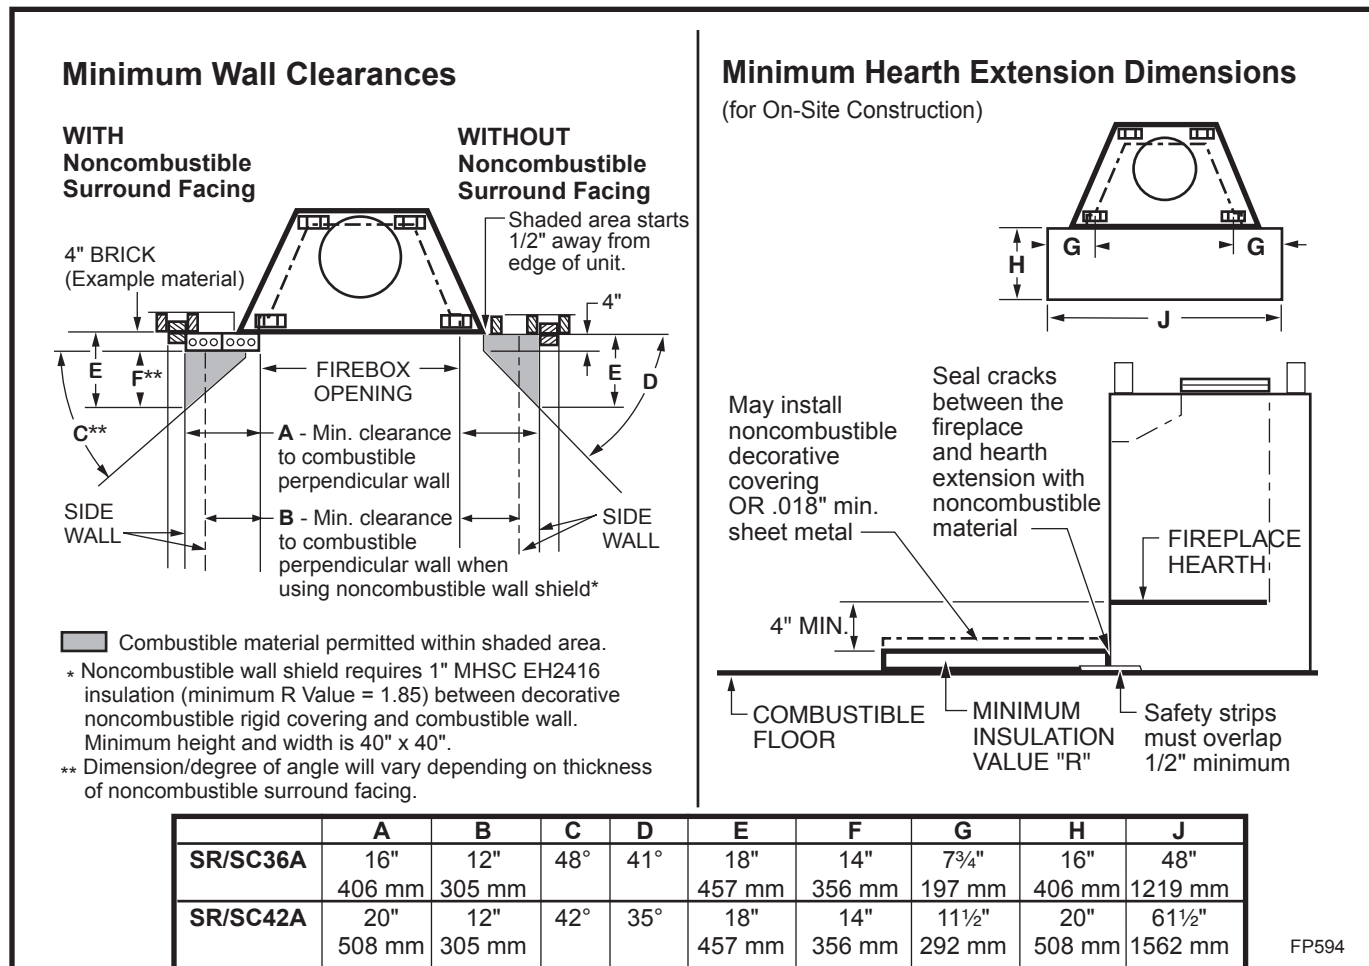

Fig. 23 Combustible side wall protection and hearth extension dimensions.
Often a decorative surround or vertical portion of the mantel is desired. If this is constructed of any combustible material it must be within the safe zone indicated in Figure 23.
Adjacent combustible side walls that are within the minimum dimensions shown in Figure 23 of fireplace opening must be protected with MHSC Wall Shield Model SP40 or a specifically built wall shield described below.
A hearth extension is required to protect a combustible floor in front of the fireplace. Refer to Figure 23 for minimum dimensions and mounting detail.
The hearth extension described in Figure 23 must be a durable noncombustible material with a minimum (total) Rt value of 1.09; refer to Figure 24 for examples. The overall height (above a combustible floor), depth and width must be as indicated, with the extension centered to the fireplace opening.
The top of insulation must be covered with a noncombustible decorative covering or a piece of .018" minimum sheet metal, to protect hearth extension material. (Fig. 23)
Secure the hearth extension to the floor to prevent shifting, using trim molding or other similar means at three (3) outer edges. Seal crack between the fireplace hearth and hearth extension with a noncombustible material. (Figs. 23 and 25)
**WARNING: HEARTH EXTENSION MUST BE INSTALLED IN ACCORDANCE WITH FIGURE 23 AND MUST NOT COVER THE BOTTOM FRONT OPENING OF THE CIRCULATING MODEL.**